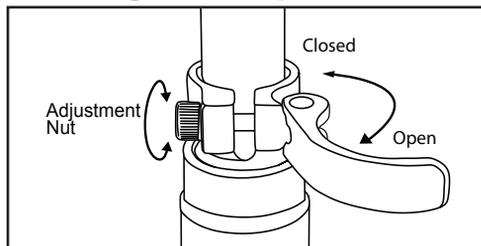

Fig. 9: Opening and adjusting a quick release.
1. Open the seatpost quick release lever (Figs. 9 & 10).
3. When you are satisfied with the height of the seatpost, close the seatpost quick release lever. The tightness of the lever is adjusted by rotating the adjustment nut opposite the quick release lever. Turn the nut by hand to adjust the tension while holding the lever stable (Fig. 9 page 21).